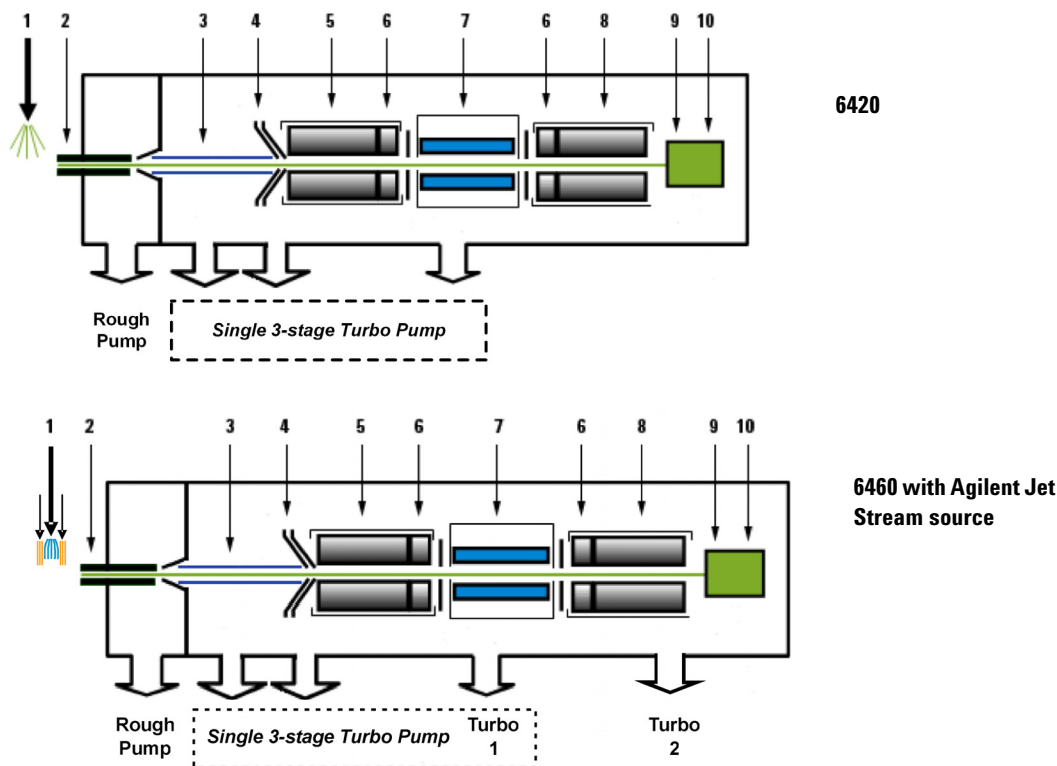

Figure 22 Multiple sources of noise on 6420/6460
Triple quadrupole mass spectrometers exhibit multiple sources of noise, including noise from all chemical and cluster backgrounds and electronic noise (Figure 22).
The problem of noise must be addressed at several stages of the instrumentation from the ion source (1) to the detector (10) in Figure 22.
for the 6420 and 6460 See Figure 22 on page 48.
This section describes in more detail how each of the components of the Triple Quadrupole LC/MS contributes to reducing noise (Figure 22).